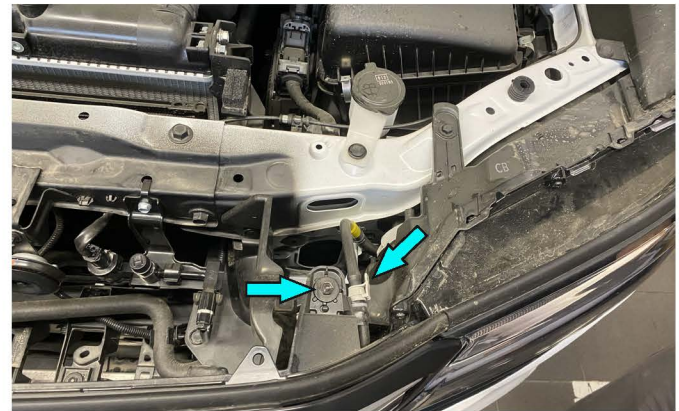

Fig.4
4. Unscrew OE bolt, disconnect LED washer pump pipe as shown in fig.4.